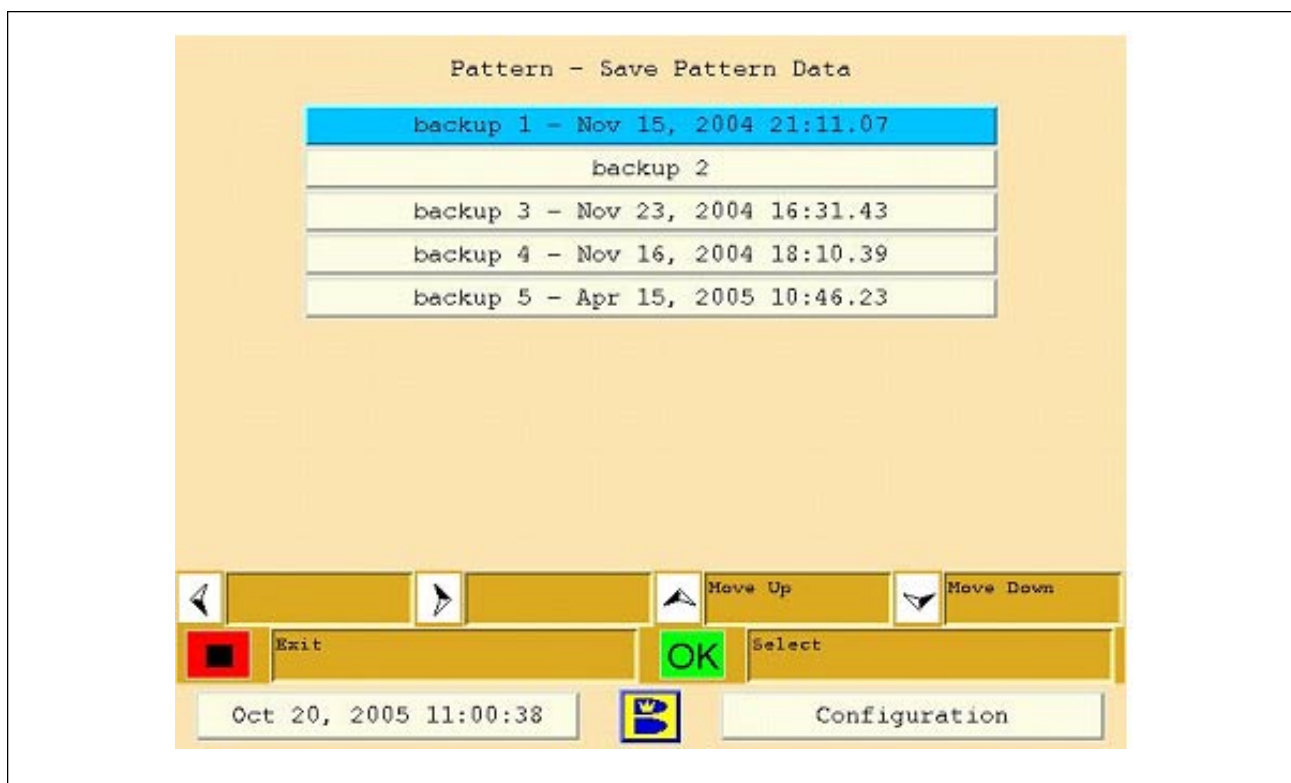

Figure 4-14. Save Pattern Data
3. Select the option you wish to perform by navigating with the up/down arrows and press “OK” and the following screen will appear. Refer to Figure 4-14.